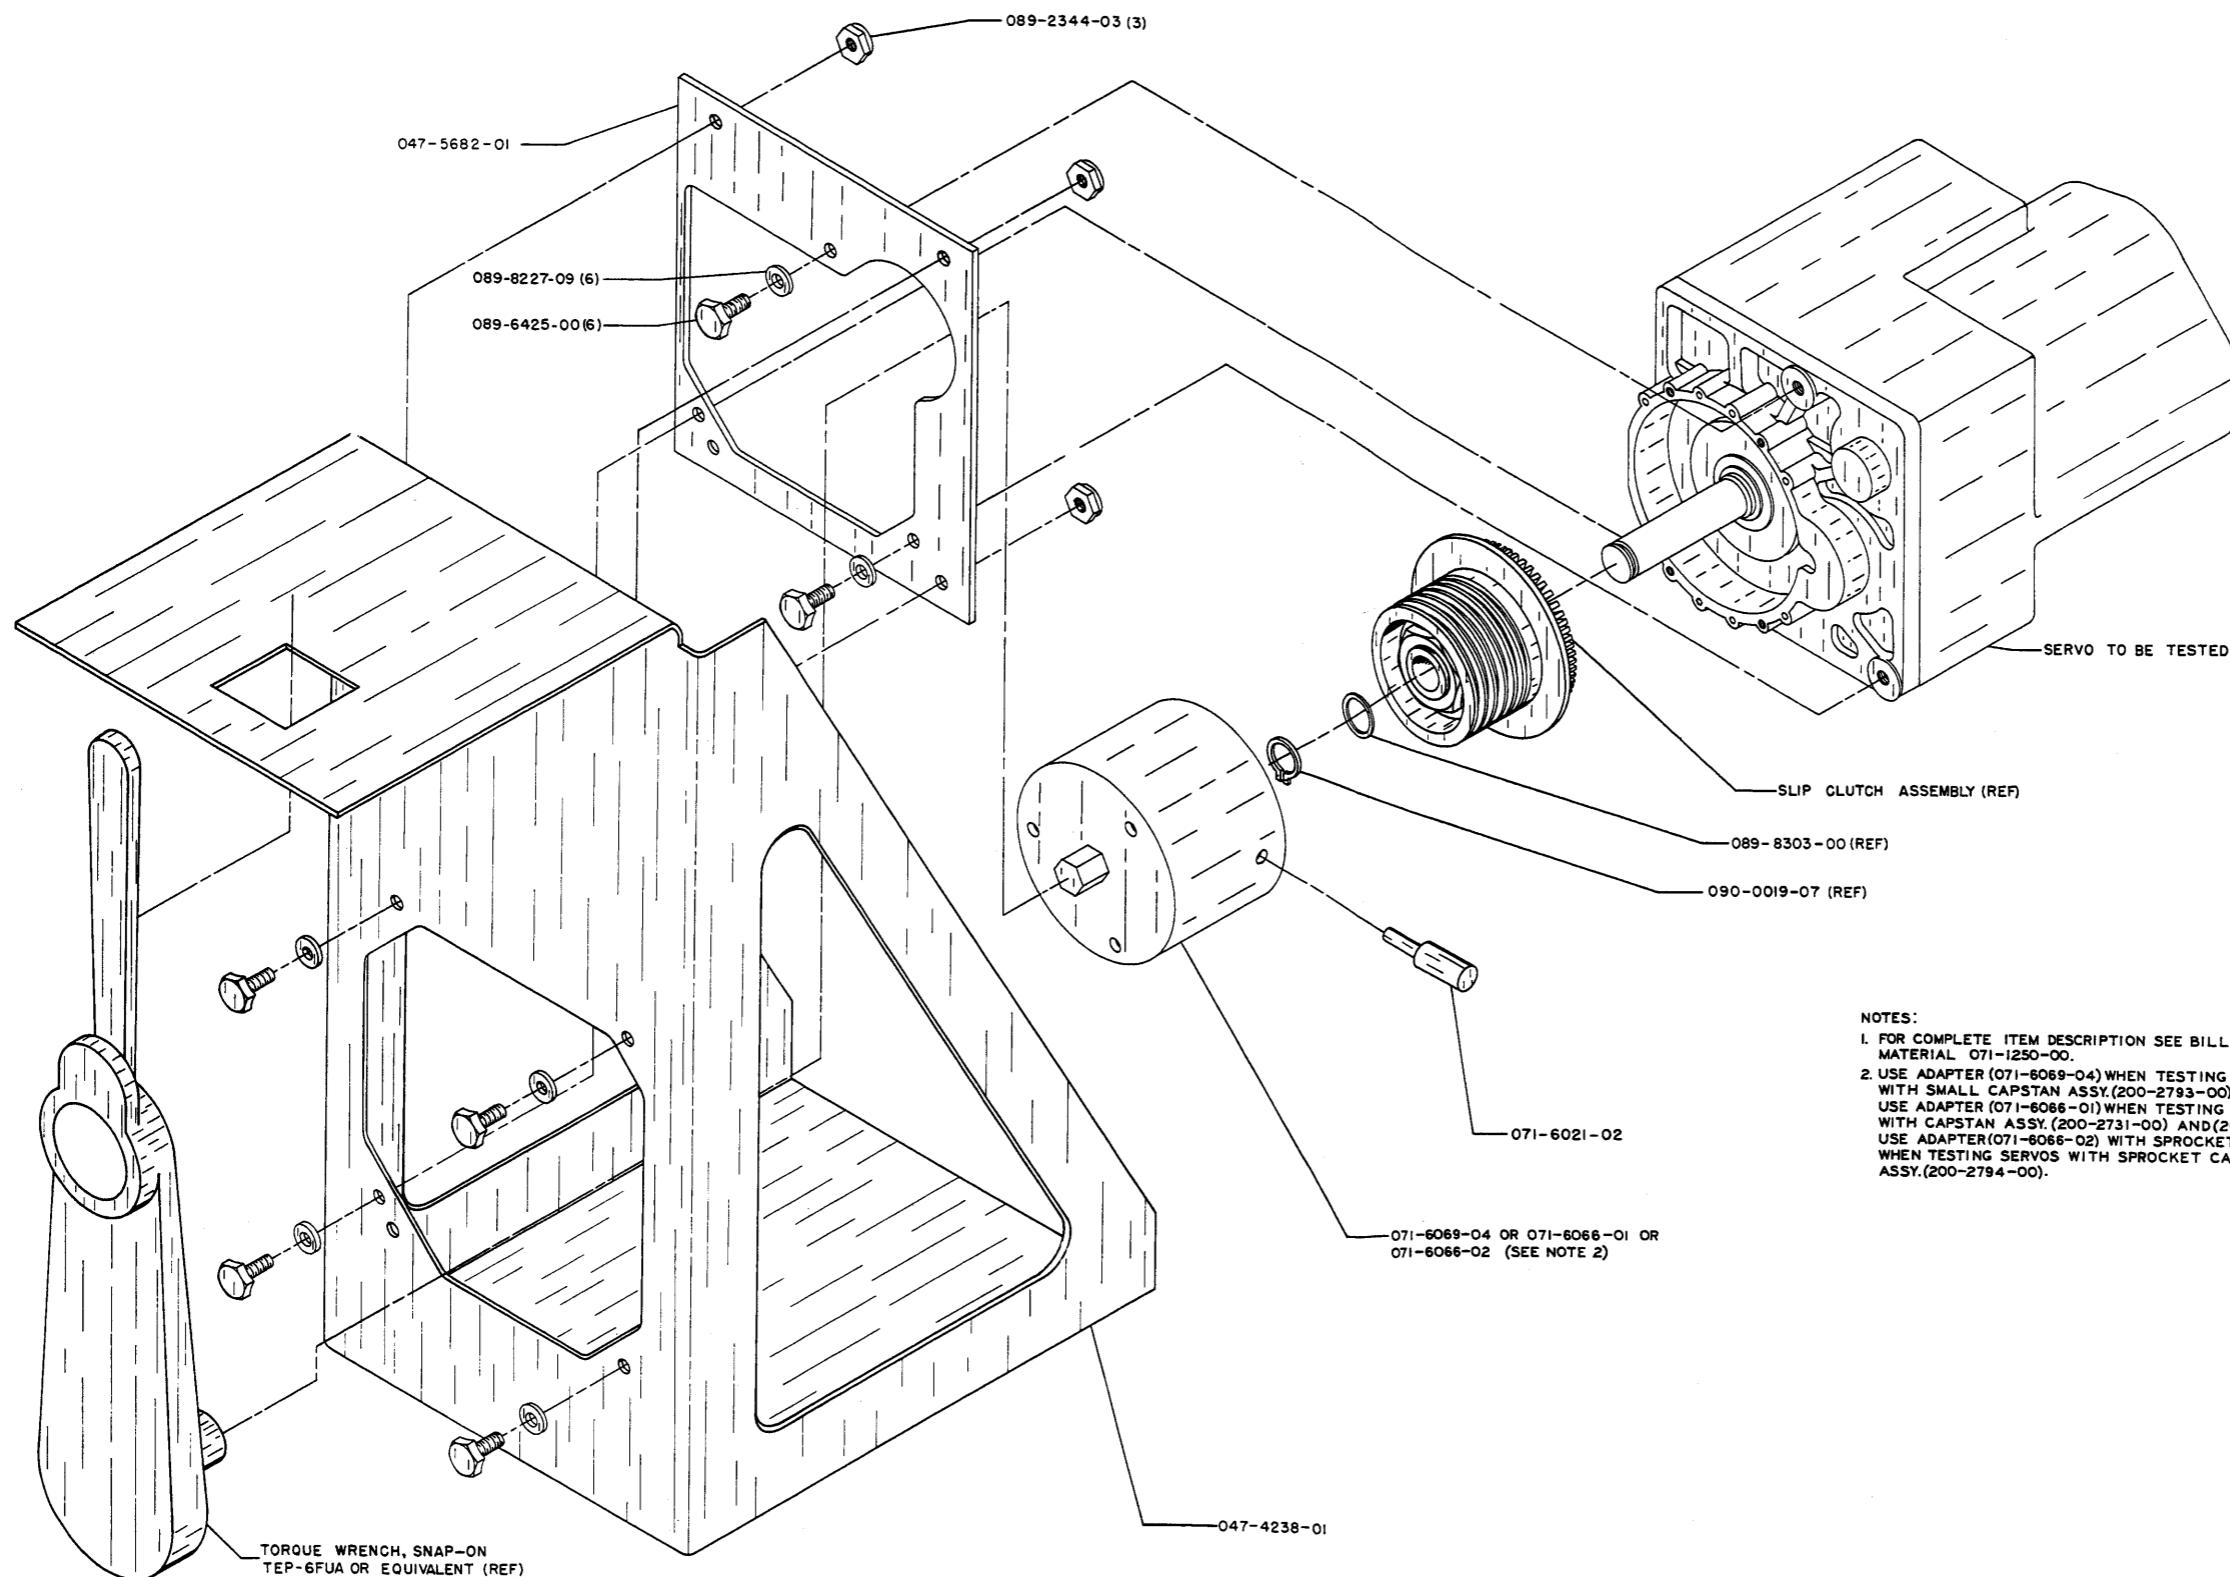

FIGURE 5-2 KS 179 SERVO TEST SET ASSEMBLY
- a. Install the KS 179 in the torque fixture (Figure 5-2).